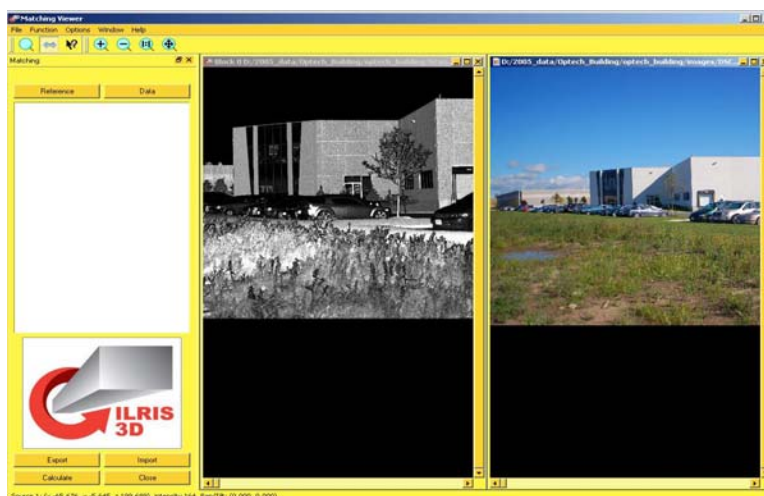

Figure 11: Full color image below the intensity image
| Figure 11: Full color image below the intensity image..... | 8 |
7. Browse to the folder where your digital camera image data was saved in the previous section, and **Open** the file. A full-color digital camera image of the scan appears (Figure 11).